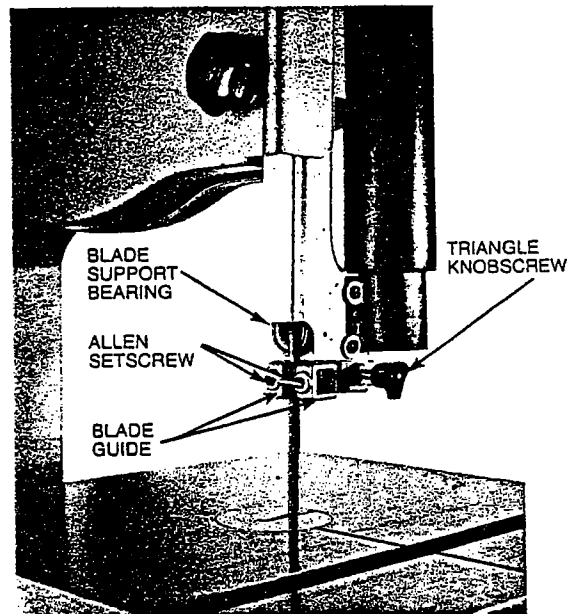

FIGURE 20
1. Loosen Allen setscrews (Figure 20) with Allen wrench.